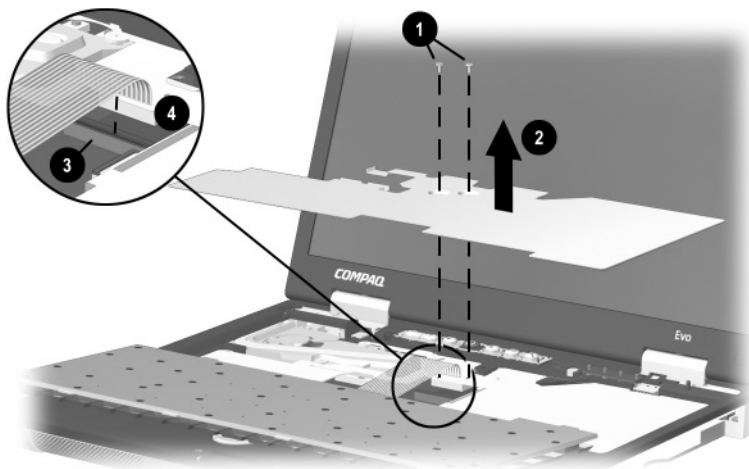

Figure 5-12. Removing the Keyboard Shield and Disconnecting the Keyboard Cable
4. Remove the two silver M2 × 5 screws ❶ that secure the keyboard shield to the base enclosure (Figure 5-12).
5. Remove the keyboard shield ❷.
6. Release the ZIF connector ❸ to which the keyboard cable is connected and disconnect the keyboard cable ❹.